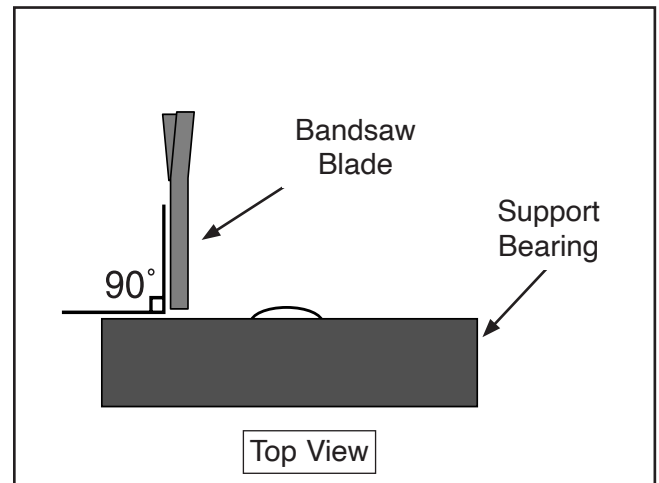

Figure 34. Blade should be perpendicular (90°) to the face of the support bearing.
5. Look at the face of the support bearing and rotate the blade guide assembly side-to-side, until the blade is perpendicular with the face of the support bearing, as illustrated in **Figure 34**.